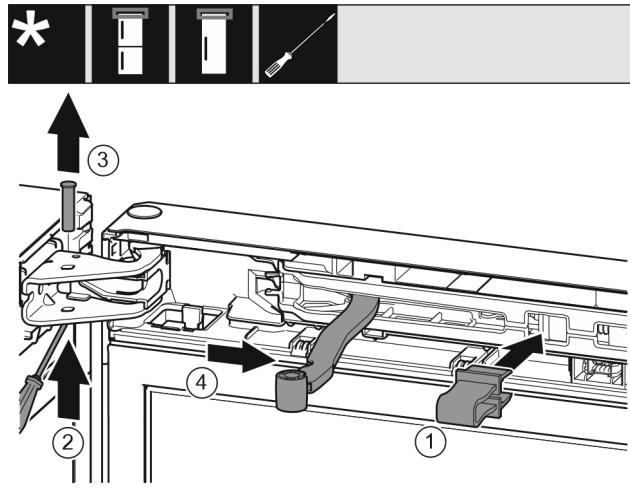

Fig. 8
► Engage the locking device in the opening. Fig. 8 (1)
► Unscrew the bolt with a screwdriver. Fig. 8 (2)
► Remove the bolt upwards. Fig. 8 (3)
► Turn the hinge in the direction of the door. Fig. 8 (4)